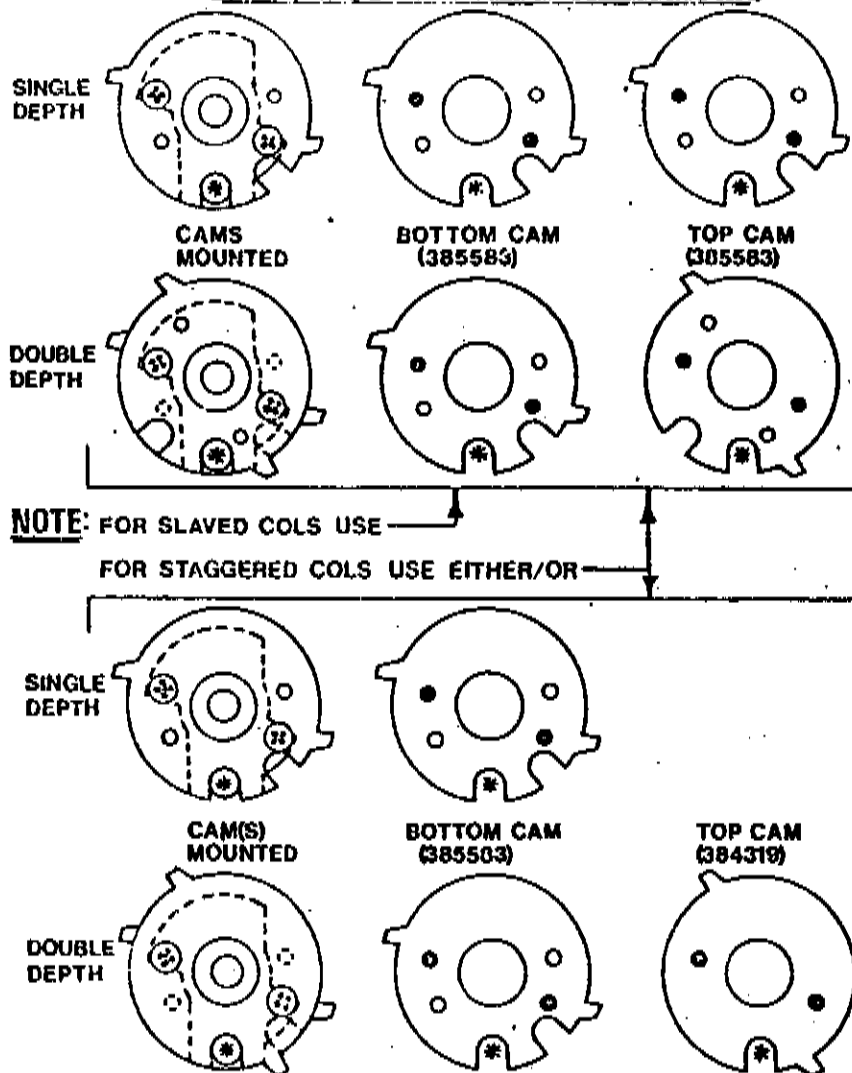

FIGURE 22
- 1) Remove the retaining screws from each motor cam and rotate the TOP CAM to its single depth position as shown in Figure 22. Replace the retaining screws. Note: If the top cam has only two (2) mounting holes, REMOVE THE CAM and replace the screws.